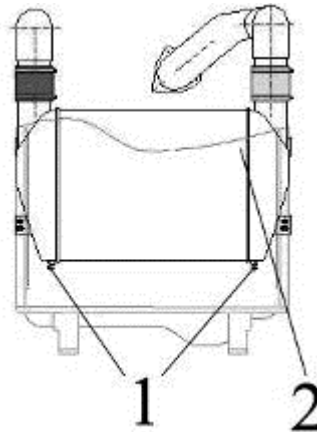

Figure 3.2 – Removal of condensate from the tanks of the engine CAC heat exchanger
- unscrew two plugs 1 (Figure 3.2) in the lower part of the charged air cooler 2;